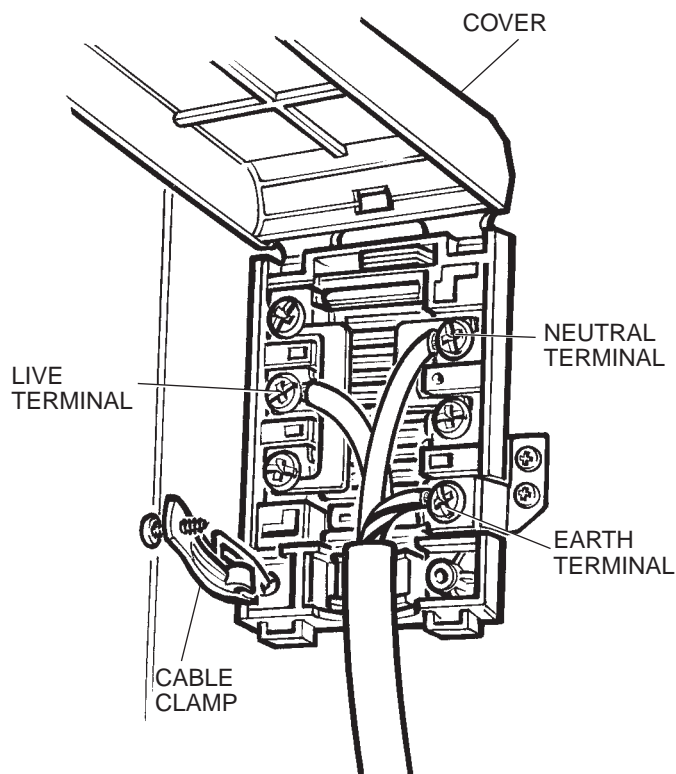

Figure 4
6. Ensure that no pipes, hoses or wires are present as obstructions below the worktop, then cut the opening into your work surface exactly where you have marked the cut-out shape (Figure 4).
1. Lift up the cover (Figure 4).
2. Loosen the cable clamp (Figure 4).
3. Connect the mains supply cable to the terminal block on the hob using the following colour code (Figure 4):